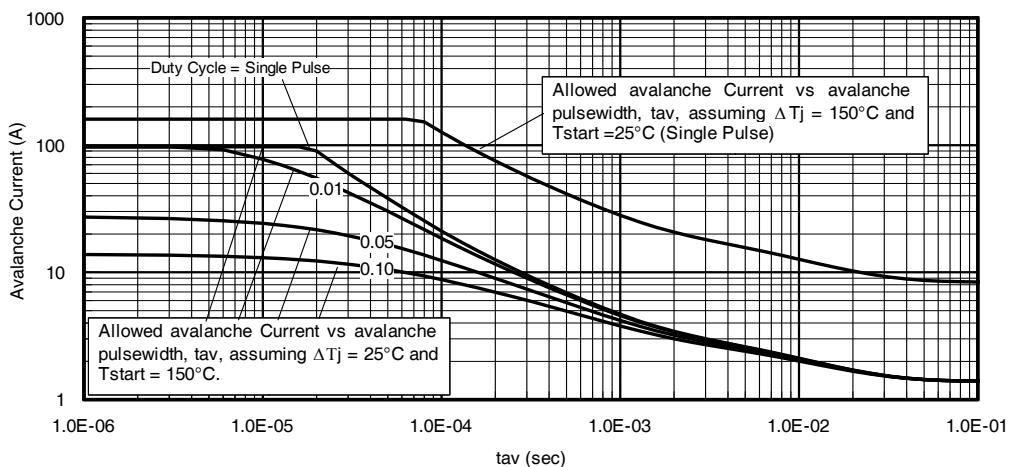

Fig 15. Typical Avalanche Current vs. Pulse width
Notes on Repetitive Avalanche Curves , Figures 15, 16: (For further info, see AN-1005 at www.irf.com)
7. ΔT = Allowable rise in junction temperature, not to exceed T_{jmax} (assumed as 25°C in Figure 15, 16).